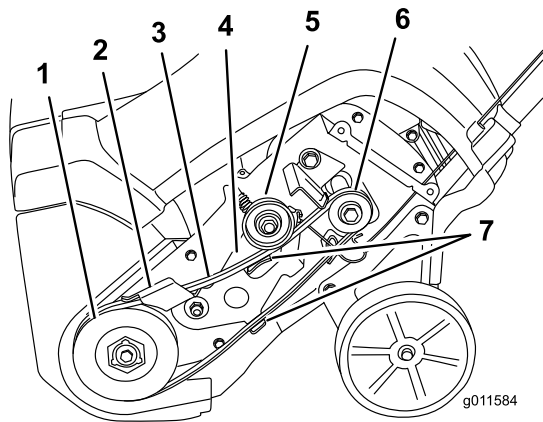

Figure 31
**Important:** Ensure that you install the drive belt so that it sits above the 2 tabs on the idler arm and below the idler arm brake (Figure 31).